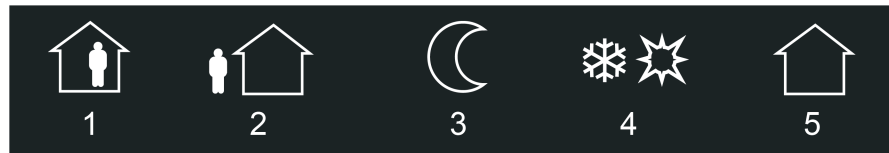

Figure 40: Status icons for the KNX function "operating mode switchover KNX"
Similarly to the status text, a symbol (C) can be displayed in the lower display area (figure 40). The displayed icon is defined separately for each operating mode and can be disabled optionally in the configuration software so that it is not displayed individually for individual operating modes. The icons allow the set controller operating mode to be identified quickly and clearly. The status text and icon can be omitted optionally.